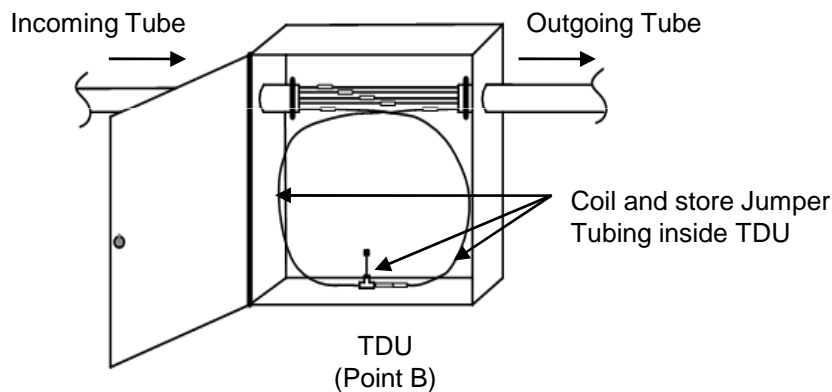

Figure 8
11.4 Carefully coil all jumper tubing and store inside Point B TDU. **See Fig. 8.**